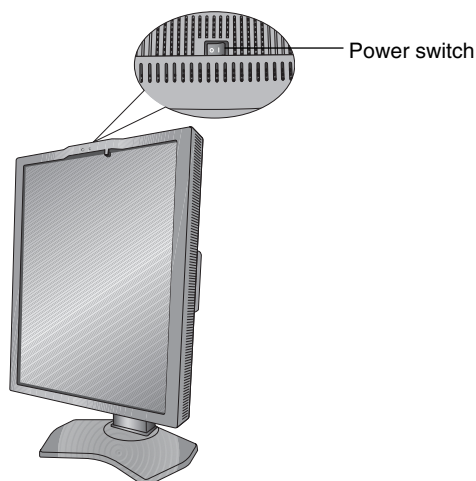

Figure E.1
9. Turn on the monitor with power switch on the top (Portrait) or left side (Landscape) of the monitor (**Figure E.1**). Turn on the computer.